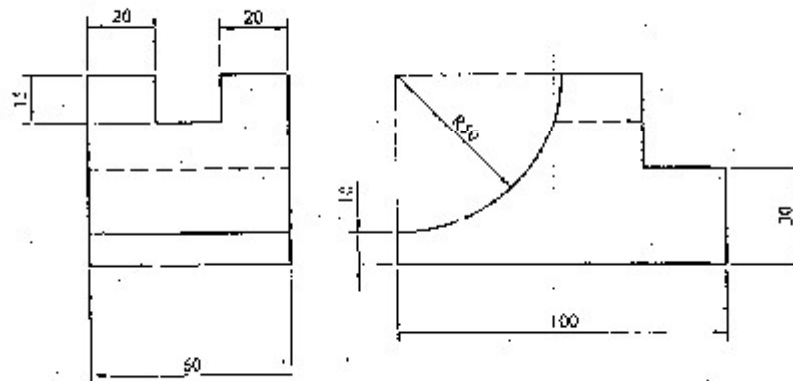

Figure 1
- Orthographic views of an object are shown in Figure 1. Draw its isometric view. [10]
- A solid cube having 50mm sides, is resting with its flat base on the ground plane. Draw its angular perspective view with its vertical faces equally inclined to the picture plane (PP) and the nearest vertical edge is touching the PP. The station point is 80mm above ground level, 40mm away from the PP and the central plane passes from the centre of the solid cube. [5]